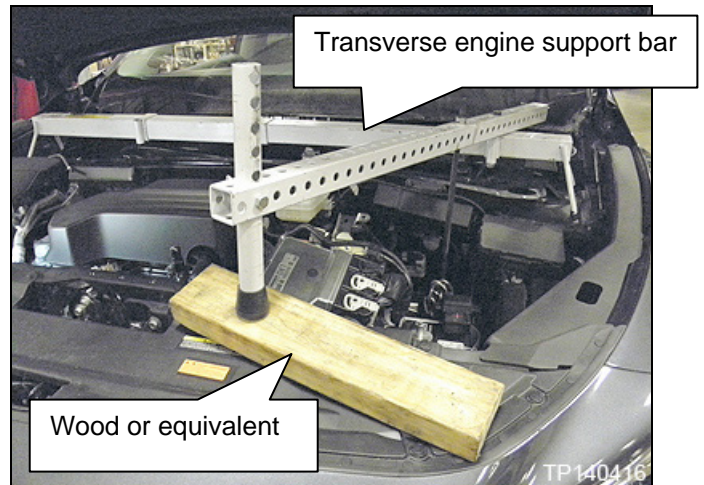

Figure 13
- The wood should be approximately 18" long and be oriented as shown in Figure 13.